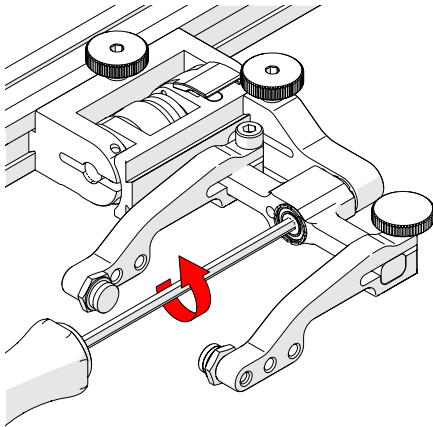

Fig. 60 - Unscrew yoke pivot screw
1. Unscrew the yoke from the swing arm (Fig. 60).